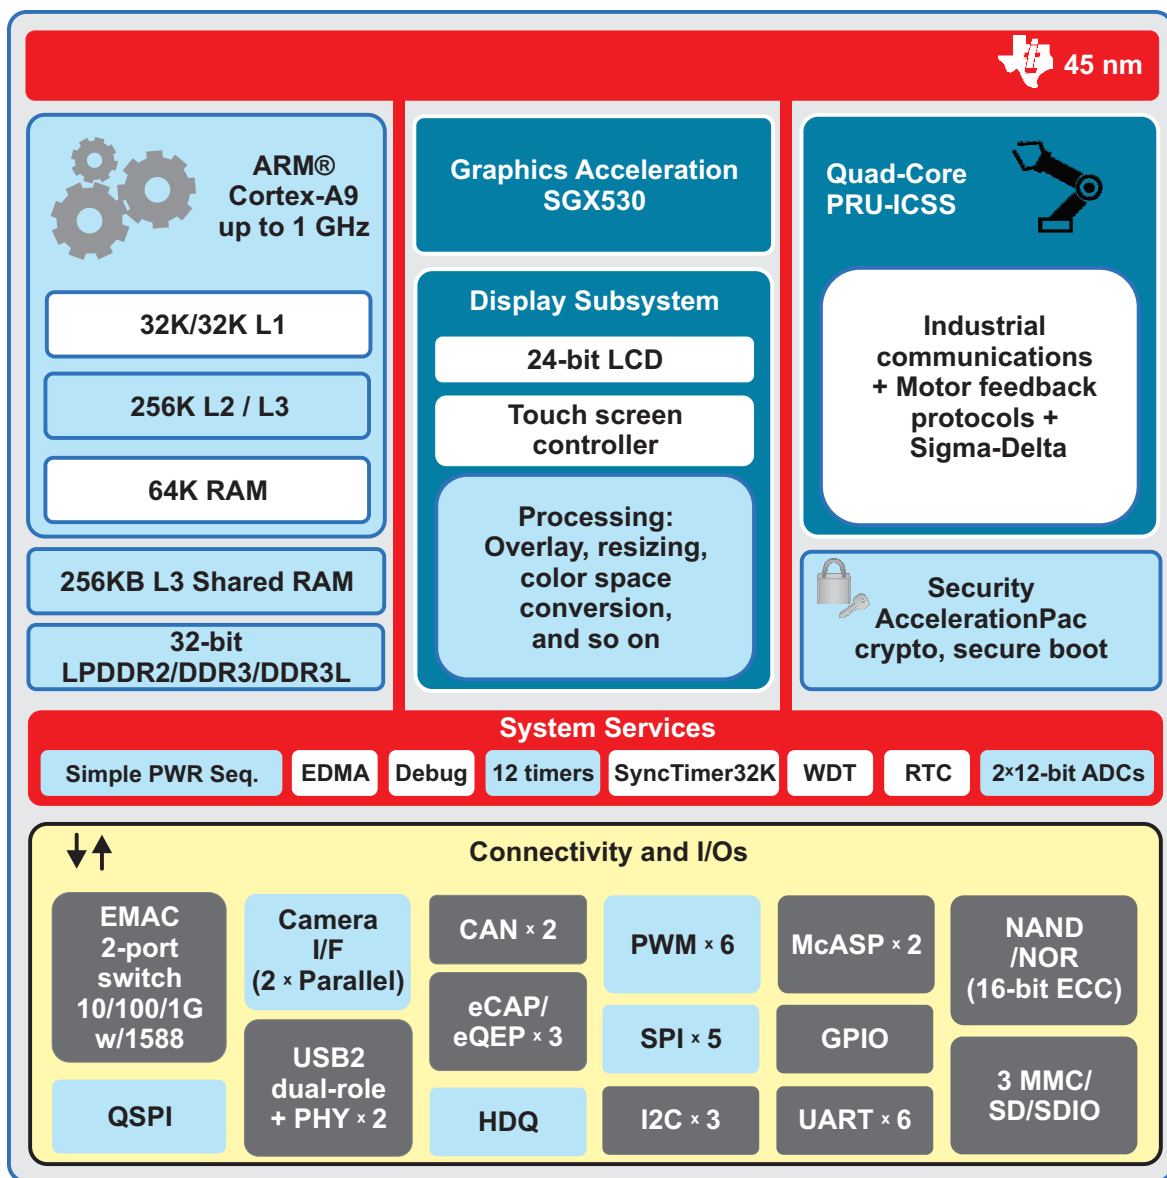

图 2. AM437x Functional Block Diagram
The Sitara AM437x processor family is based on the powerful ARM Cortex-A9 Core. 图 2 shows the block diagram of the processor and integrated peripherals. This processor integrates a quad-core programmable real-time unit (PRU), which has been designed to implement deterministic, real-time processing of industrial communication protocols such as EtherCAT, PROFIBUS, and position encoder interfaces like EnDat2.2, BiSS, and  $\Delta\Sigma$  demodulator interfaces. This make AM437x processors ideal for industrial communications, industrial control, and industrial drives applications. The processor has a rich peripheral set for industrial interfaces, motor control, graphics, and security. The device can boot from various sources including QSPI and NAND. The JTAG interfaces all cores including PRUs and the PRU can be debugged using the Code Composer Studio™ (CCS) software from Texas Instruments (TI). Parallel debug of ARM and PRUs is supported. The reference document for AM437x can be found at <http://www.ti.com/product/AM4379>.